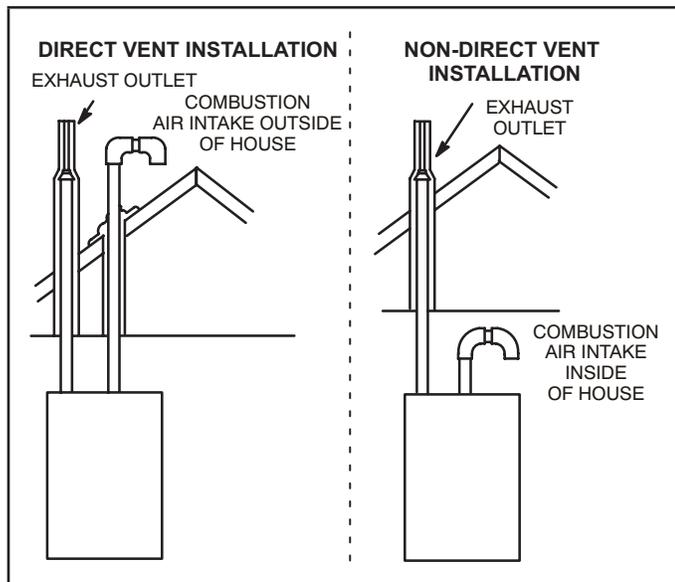
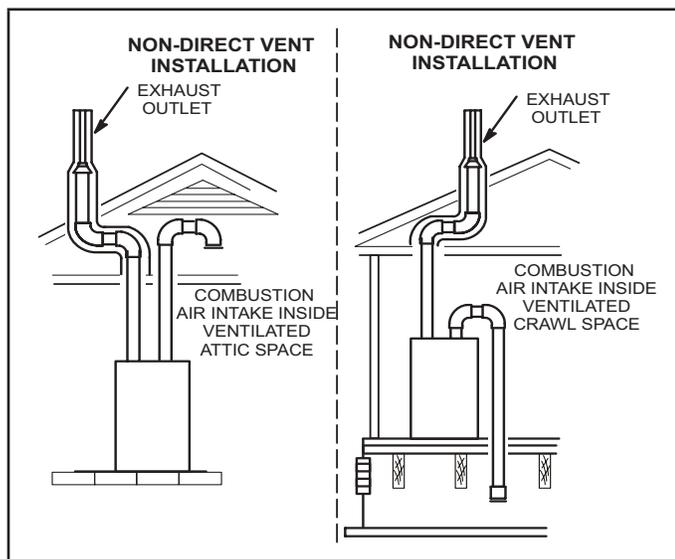

Figure 1
Figure 2
**NOTE** - In Direct Vent installations, combustion air is taken from outdoors and flue gases are discharged outdoors. In Non-Direct Vent installations, combustion air is taken from indoors or ventilated attic or crawlspace and flue gases are discharged outdoors. See "Figure 1" and "Figure 2" for applications involving roof termination.